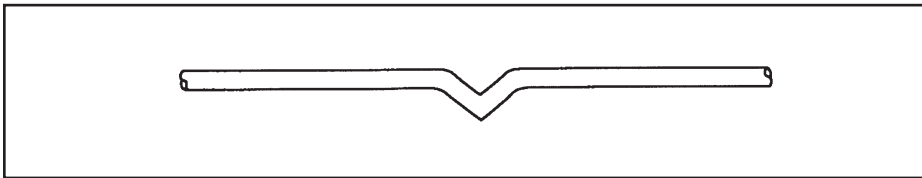

Figure 2.
- A kink in the cable. See Figure 2.